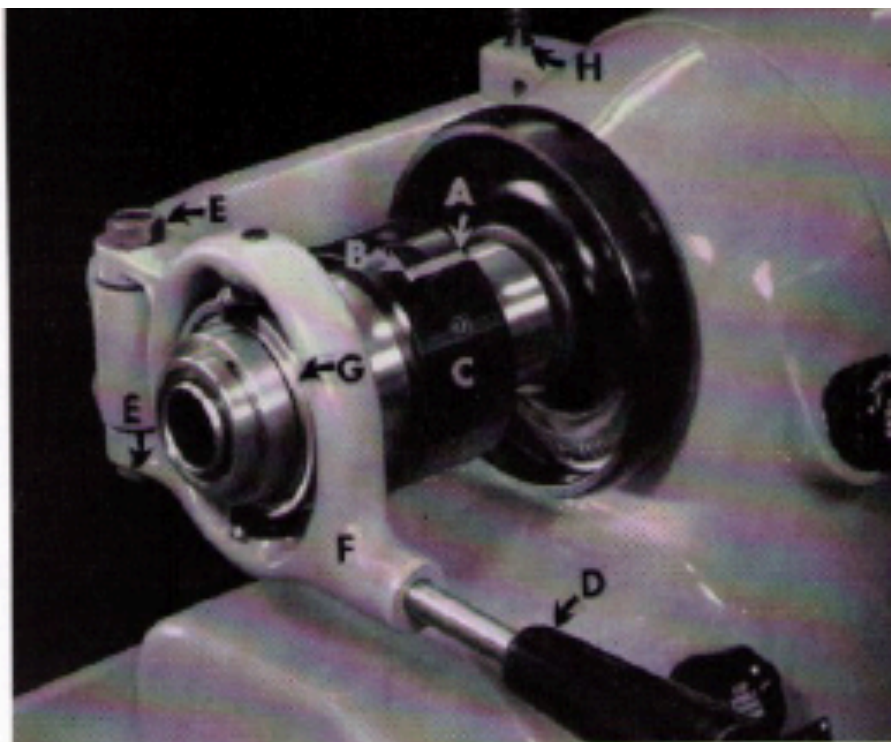

Figure 11
ADJUSTING COLLET CLOSER — Figure 11
2. Open collet closer latch "A", Figure 11, by pressing down at point "B".
3. Engage the collet closer tube on the collet or step chuck and thread about two turns only. To turn the collet closer tube, the operator, using his left hand, turns the black shell guard "C", Figure 11, forward while he holds the collet or step chuck in place with his right hand.
5. Move lever "D", Figure 11, to the extreme left or closed position and then turn shell guard "C" toward the operator until it is drawn up as far as it will go by hand. If headstock spindle should turn, lock spindle by pressing in spindle lock pin "D", Figure 3, Page 12. To engage lock pin into notches provided, turn the spindle by hand until pin enters notch to lock.
The two adjusting screws and lock nuts located at "E", Figure 11, are set at the factory. By adjustment of lock nuts "E", lever yoke "F" is raised or lowered so there is no pressure on bearing "G".
HOW TO REMOVE COLLET CLOSER — Figures 11 and 12
To remove the collet closer remove link pin "H", Figure 11. This pin is easily removed by the use of a mallet and brass punch, striking pin at bottom.
CAUTION: DO NOT REMOVE COLLET CLOSER BY REMOVING SCREW "E", Figure 11. This screw is adjusted properly at the factory for proper operation of collet closer. Remove link pin "H", Figure 11, only. After removing pin "H" remove collet closer as shown in Figure 12. It is then necessary to remove adjusting nut "A", Figure 12. This is done by pulling nut straight off end of spindle. **DO NOT TURN ADJUSTING NUT — IT IS NOT THREADED TO SPINDLE.**
Apply a film of light oil on rear of headstock spindle and apply adjusting nut "A", Figure 12. Apply a film of light oil on bearing section "B", Figure 12, of collet closer tube and slide closer on machine and insert link pin "H", Figure 11.